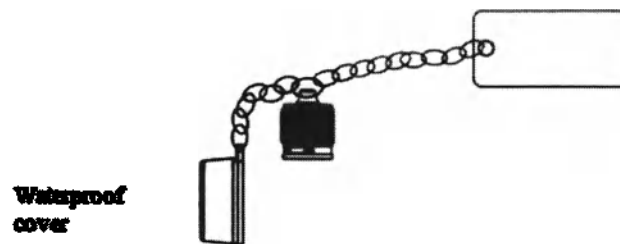

Fig 7.1
Prior to cleaning and disinfection, prepare the equipment shown in Fig 7.1.
1. When cleaning and Disinfection, the waterproof cover must be attached to the electrical connection part above the endoscope. (Fig 7.1)